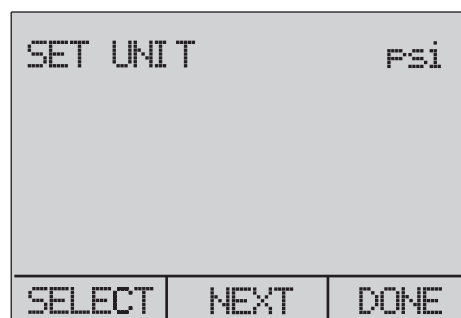

Figure 31. Set Unit Screen
5. Use "**SELECT**" to scroll through the "**UNIT**" options, and select "**NEXT**" to move on. See Figure 31.